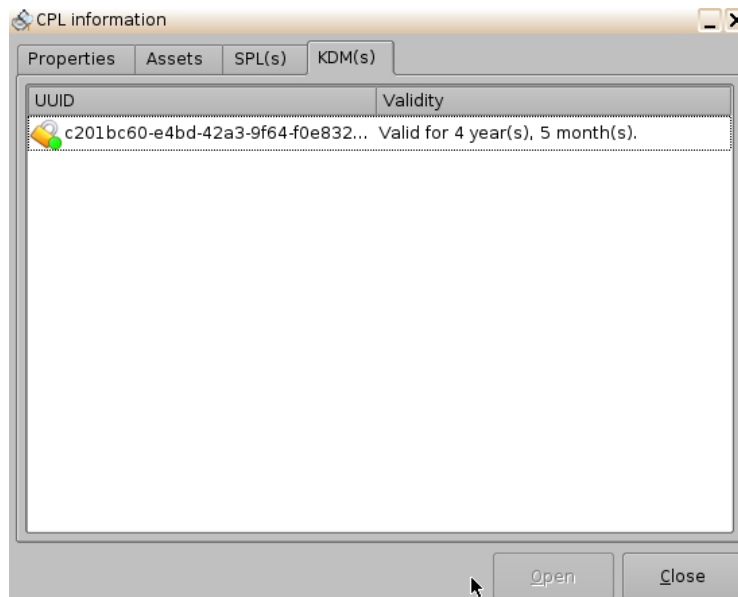
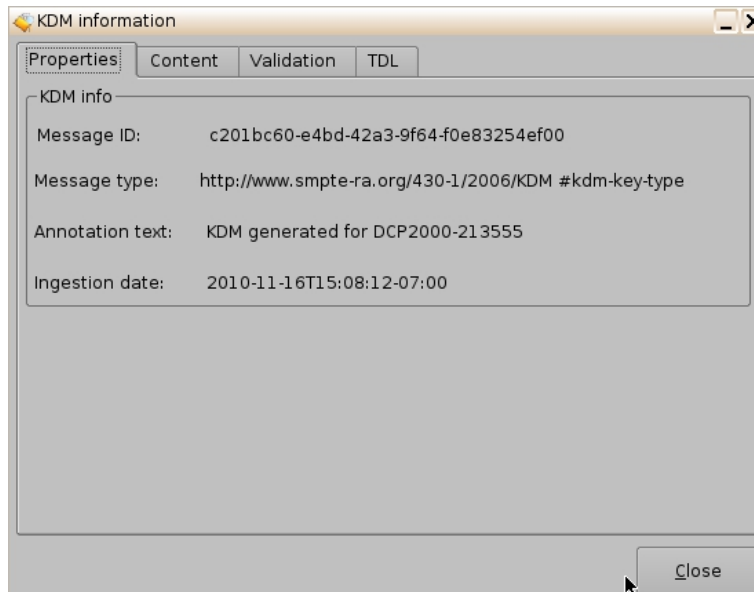

Figure 71: CPL Information Window - KDM(s) Tab
Figure 72: KDM Information – Properties tab
- This tab will display the UUID and Validity of each KDM for the concerned CPL (Figure 71). Select a KDM and select Open. This will take the user to the KDM Information window Properties tab (Figure 72).
(Figure 72):